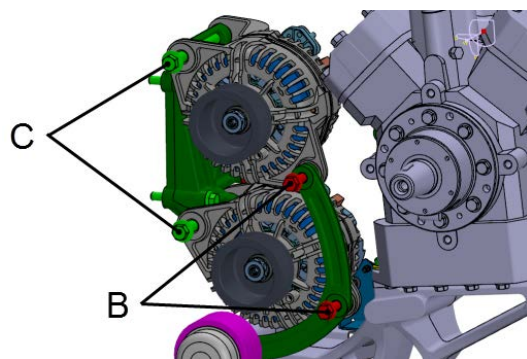

FIGURE 16
21. Install the alternators. Fix lower and upper alternators loosely to alternator supports using bolts **C**. Also, mount arched support loosely onto alternators using bolts **B** (FIGURE 16).